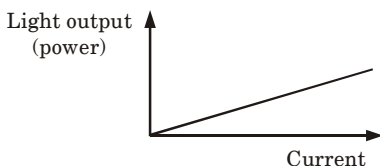

Fig. 5. An ideal light output against current characteristics for and LED.
1. The ideal light output power against current characteristics for an LED is shown in Fig. 5. It is linear corresponding to the linear part of injection laser optical power output characteristics before lasing occurs.